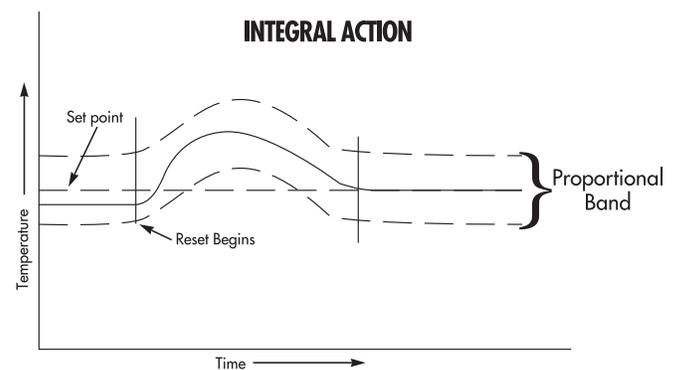

Figure 7.
3. Proportional with Integral (PI), automatic reset. Figure 7. Integral action moves the proportional band to increase or decrease power in response to temperature deviation from setpoint. The integrator slowly changes power output until zero deviation is achieved. Integral action cannot be faster than process response time or oscillation will occur.
4. Proportional with Derivative (PD), rate action. Derivative moves the proportional band to provide more or less output power in response to rapidly changing temperature. Its effect is to add lead during temperature change. It also reduces overshoot on start-up.